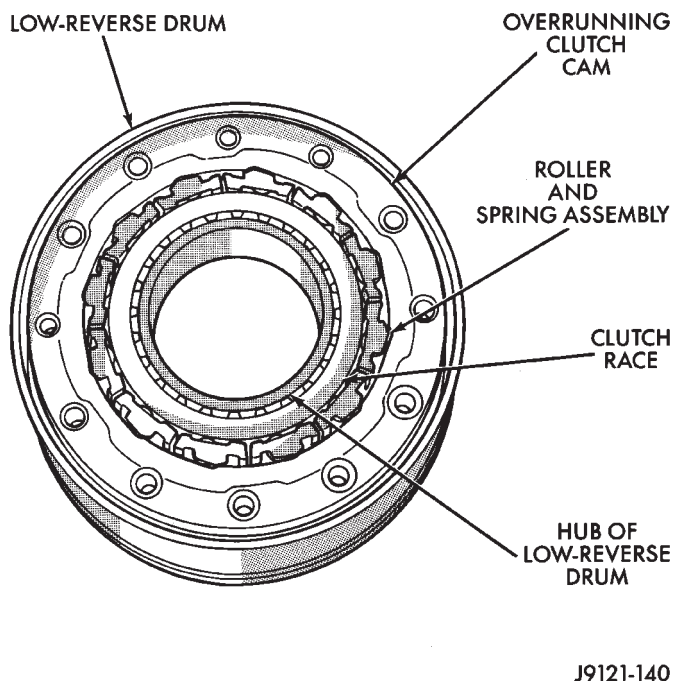

Fig. 34 Checking Overrunning Clutch Installation
(2) Install roller and spring assembly in clutch cam (Fig. 34).
(3) Lubricate overrunning clutch rollers, springs cam and race with transmission fluid. Verify component installation before proceeding. Bolt holes in clutch cam are countersunk on one side. Be sure this side of cam will face rearward as shown (Fig. 34).